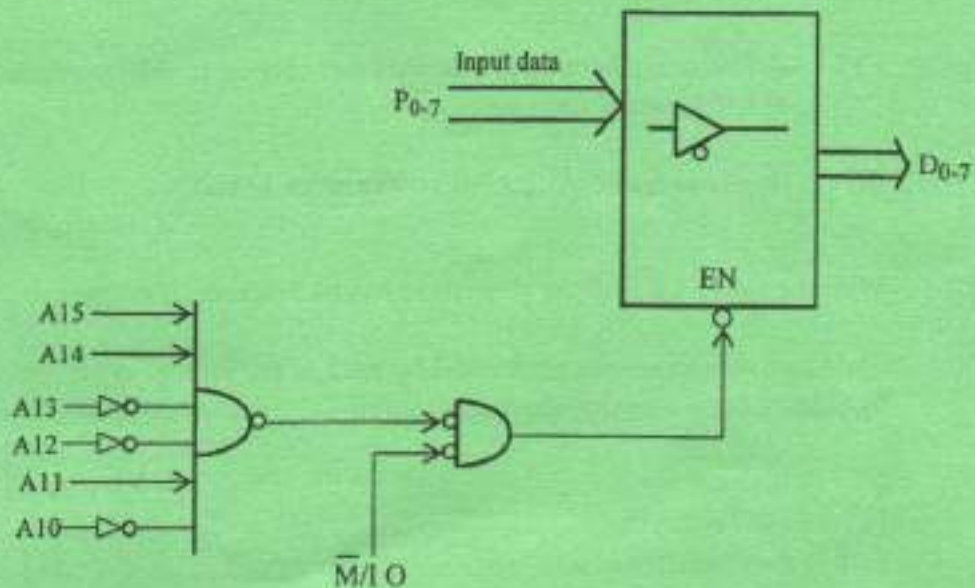

Fig. 1
- (c) Figure 1 shows a schematic diagram of an Input/Output (I/O) port.